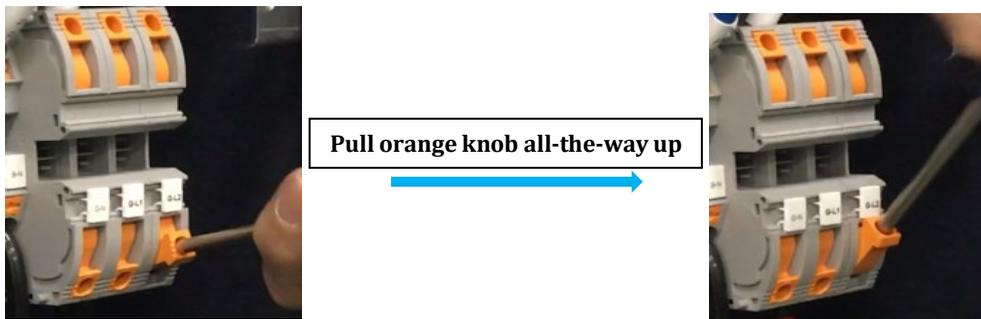

Figure 5.28 Grid AC Terminal Operation
2. Insert a round head screwdriver fully into the orange round hole, pull up to open. The knob needs to go all-the-way to the top, or the 2nd click to fully open the wire terminal. (Figure 5.28)